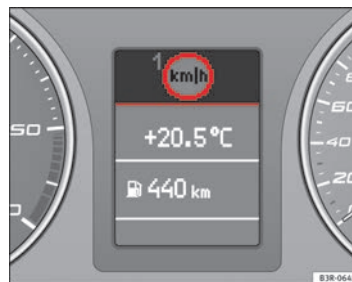

Fig. 56 Display: Speed warning function
exceeded by about 10 km/h. A warning symbol will also appear in the display ⇒ Fig. 56.
The warning symbol ⊖ for speed limit warning 1 ⇒ Fig. 56 will appear in the display if you exceed the pre-set speed. It goes out again if the speed is reduced below the set speed limit.
- Press the CHECK button and hold it down until the symbol ⇒ Fig. 56 appears.